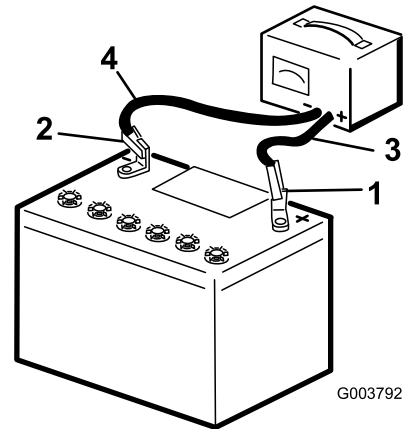

Figure 5
6. Leave the vent caps off and connect a charger to the battery (Figure 5) and charge it at a rate of 4 amperes or less for 4 hours (12 volts). Do not overcharge the battery.
7. When the battery is fully charged, unplug the charger from the electrical outlet, then disconnect the charger leads from the battery posts (Figure 5).